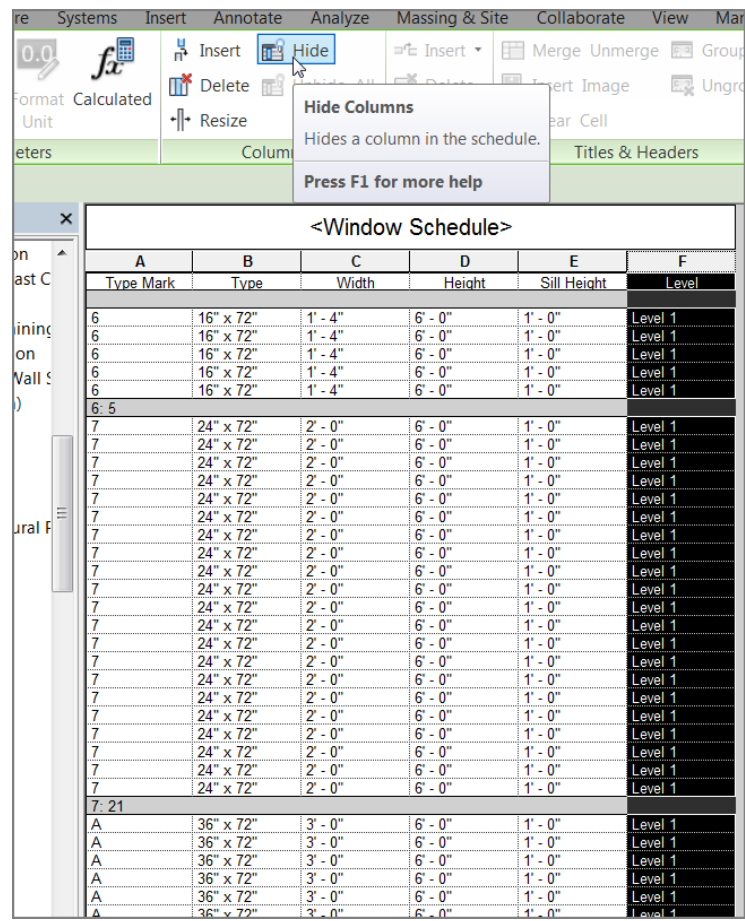

FIGURE 11.24: You can hide a column but still have Revit sort the schedule based on the hidden information.
- 1. Select a cell in the Level column, as shown in Figure 11.24.